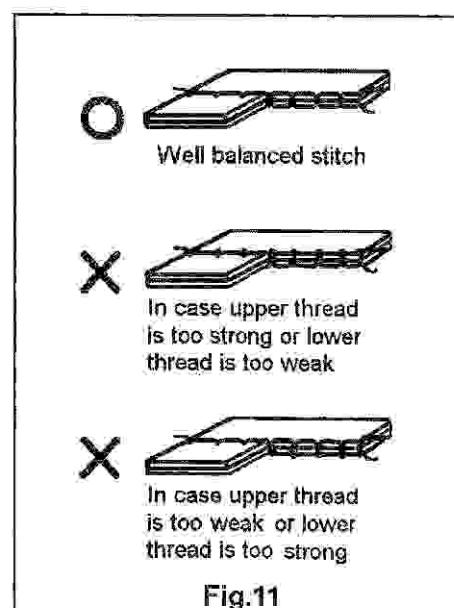

Fig.11
12.Adjustment of the thread tension (Fig.11):